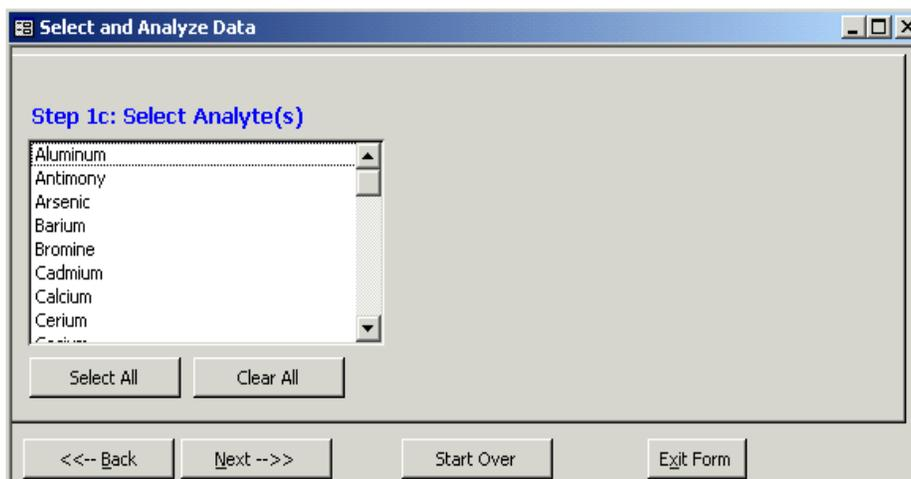

Figure 4-5. Select Analyte(s) form.
- “Next -->,” which indicates that your choices are complete and moves you to the Select Analyte(s) form (Figure 4-5)
The Select Analyte(s) form (Figure 4-5) will be displayed after the analyses have been selected.
- “<<-- Back,” which returns you to the Select Analyte(s) form (Figure 4-5).